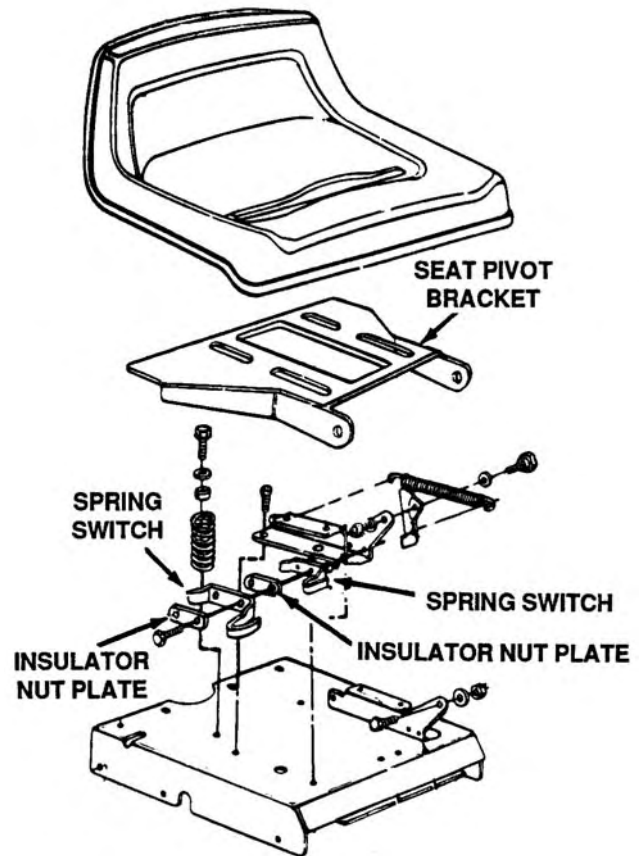

Figure 3-1.
- 3-1.4 All lawn and garden tractors produced after July, 1987 were requested by ANSI (American National Standards Institute) to have an operator present as an added safety feature. If the operator leaves the seat with the blades or PTO engaged, the engine will shut off. This seat switch is a safety device, designed for your protection. See Figure 3-1.